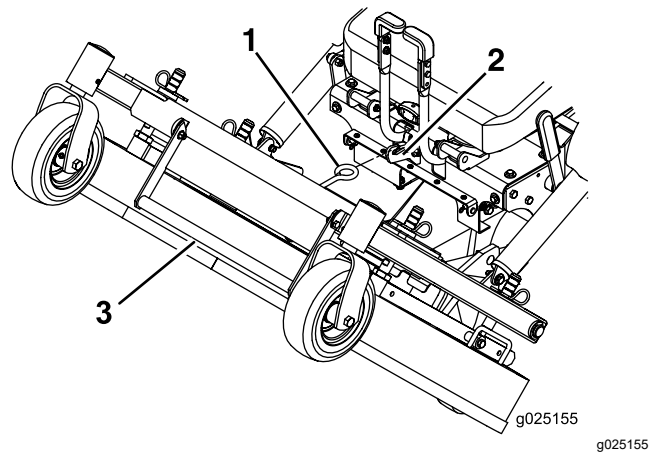

Figure 9
4. Using the deck-lift handle, lift the deck and latch it in the raised position (latch is located at front center of seat) as shown in Figure 9.
1. While firmly holding onto deck-lift handle, unhook the mower-deck latch from the machine and slowly lower the mower deck to the ground (Figure 9).
2. Push the deck-locking pins inward and rotate them forward to securely lock the mower deck in the lowered position (Figure 9).